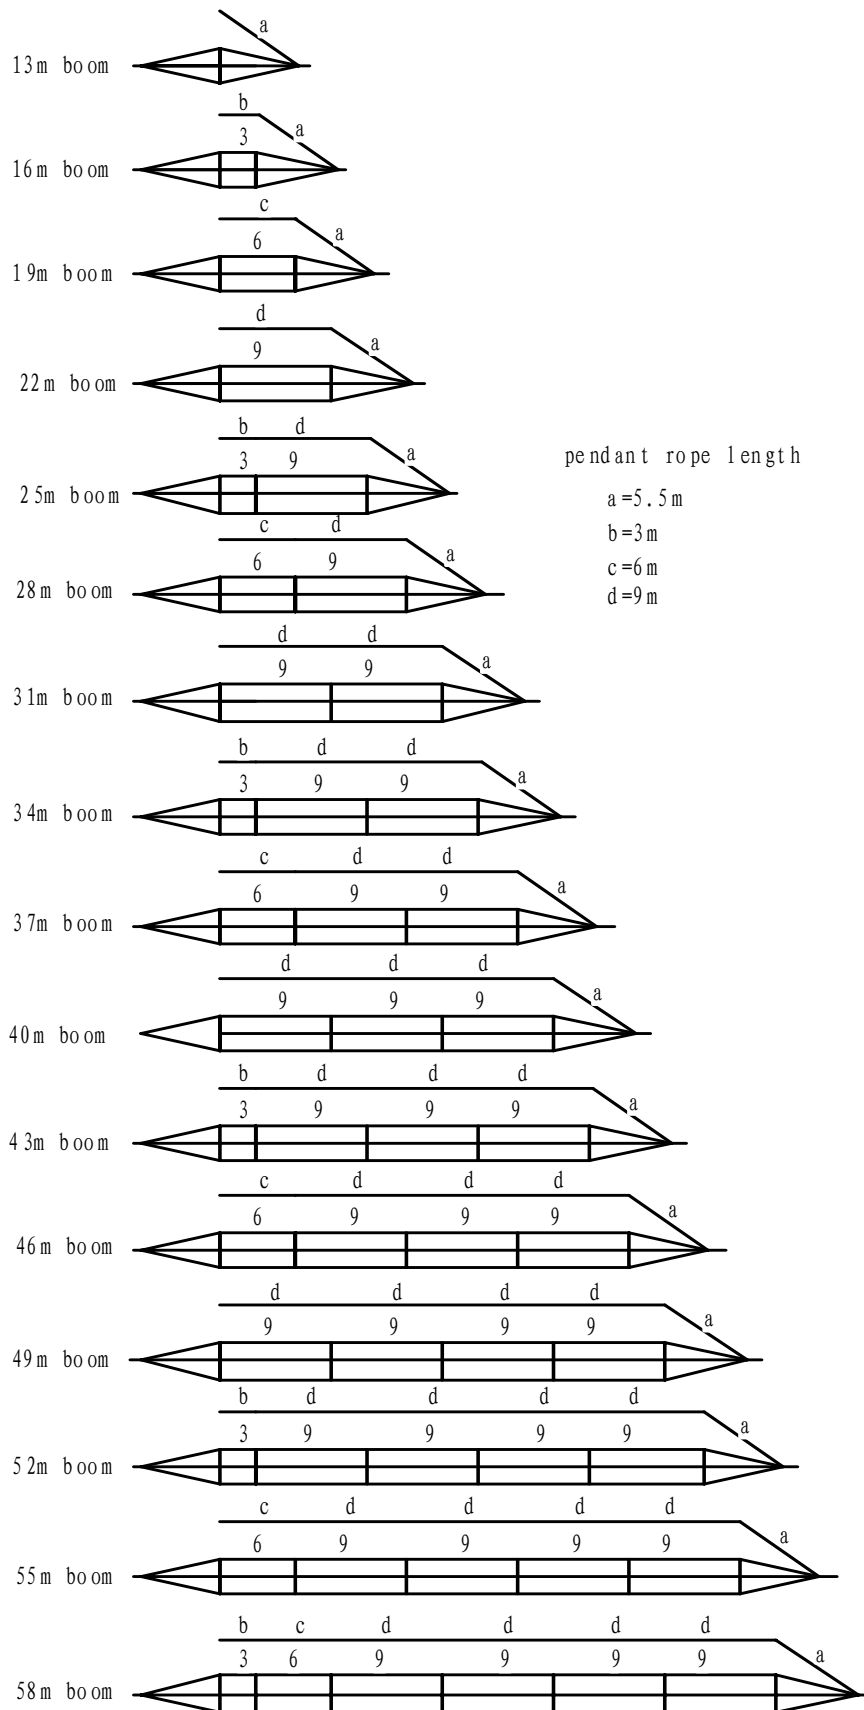

Fig. 7-2 Boom Combinations
The crane boom set consists of 13m basic boom (boom foot 6.5m, boom tip 6.5m) and boom sections of 3m, 6m, and 9m in length. The combinations are shown in Fig. 7-2.
1. Select suitable boom sections according to the boom combination guideline (see Fig. 7-2). Prepare pendant ropes and boom joint pins accordingly.